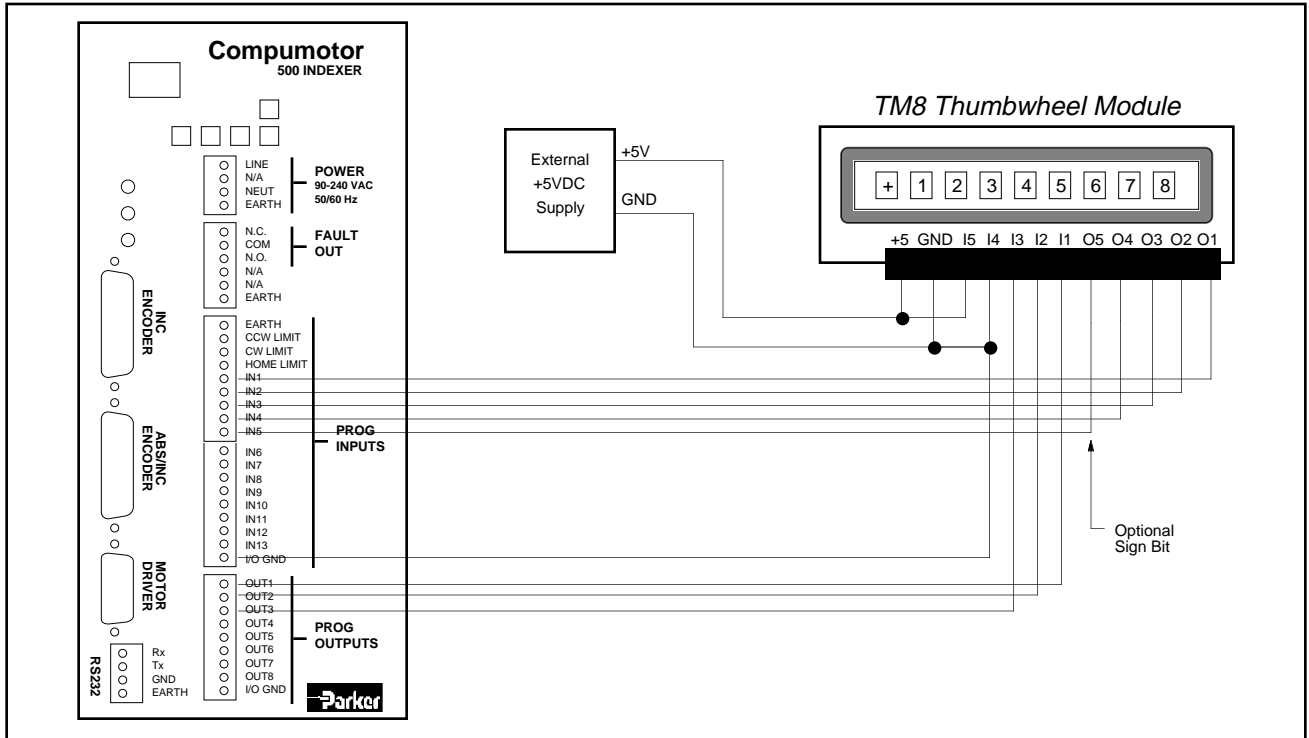
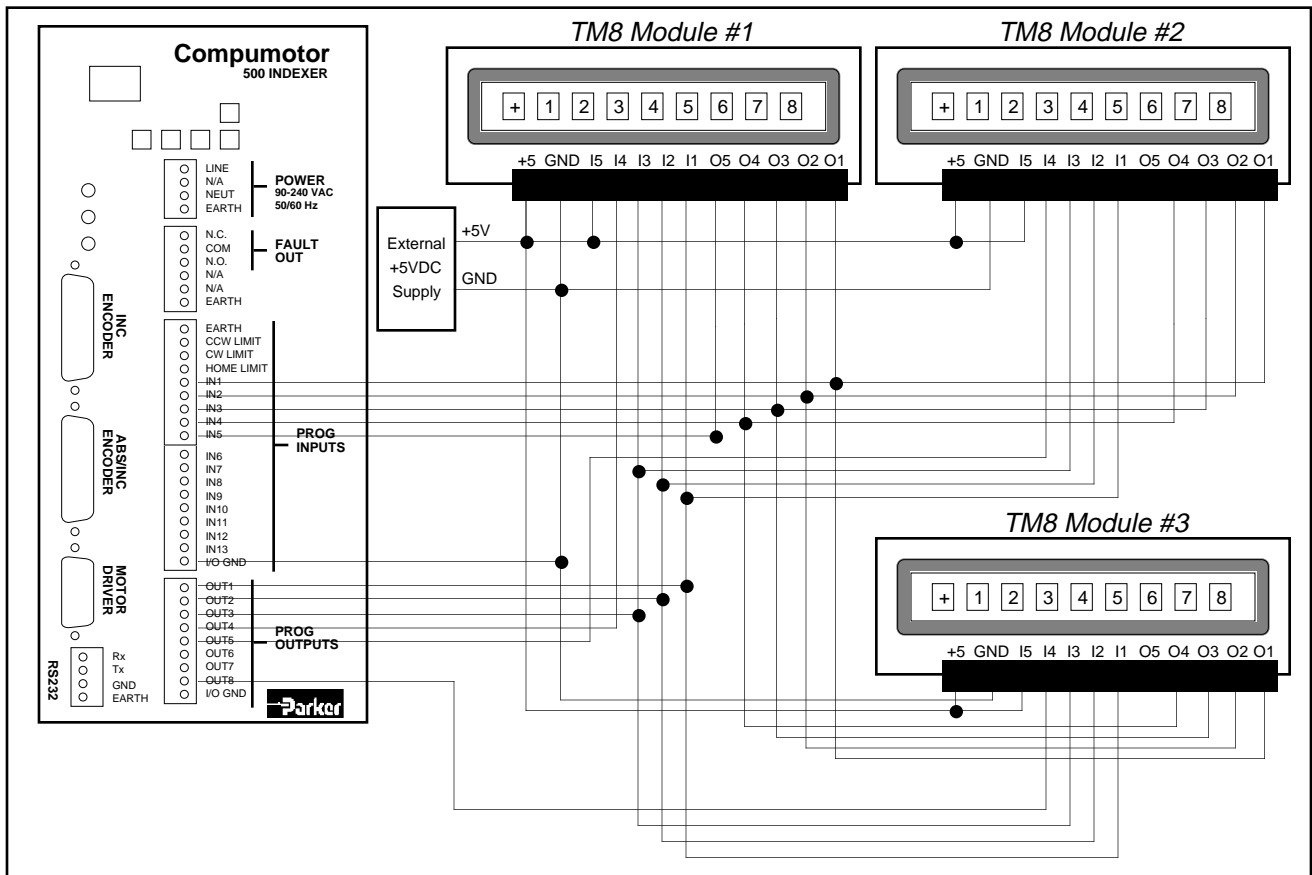

Figure 4-13. Wiring One TM8 Thumbwheel Module to the 500
Figure 4-14. Wiring Multiple TM8 Thumbwheel Modules to the 500
- STEP ①** To select the TM8 module, first type the `TW1` command to enable the *TM8 Mode*.
- STEP ②** Wire your TM8 module to the 500 as shown in Figure 4-13. If you are using more than one TM8 Module (the maximum allowed is six for each 500), wire the modules as in Figure 4-14.
14 on the TM8 module acts as an enable input that is active low. 15 on the TM8 acts as an enable input that is active high. By using the first three Model 500 outputs (OUT1 - OUT3) as *strobe* outputs for decoding the thumbwheel digits, the remaining outputs can be used for selecting multiple thumbwheels. In Figure 4-14, the active low input (14 on the TM8) functions as the *module select input*. One output line is dedicated to select a particular module. The three outputs that decode the digits are common to all modules used.